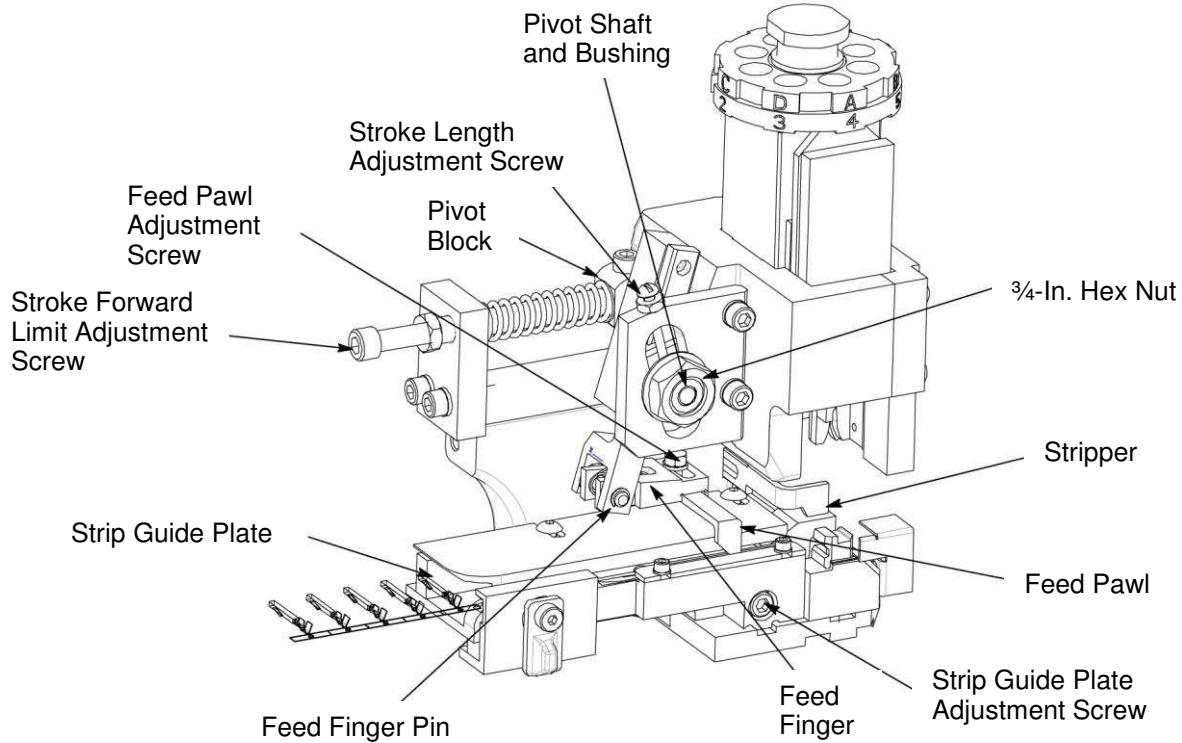
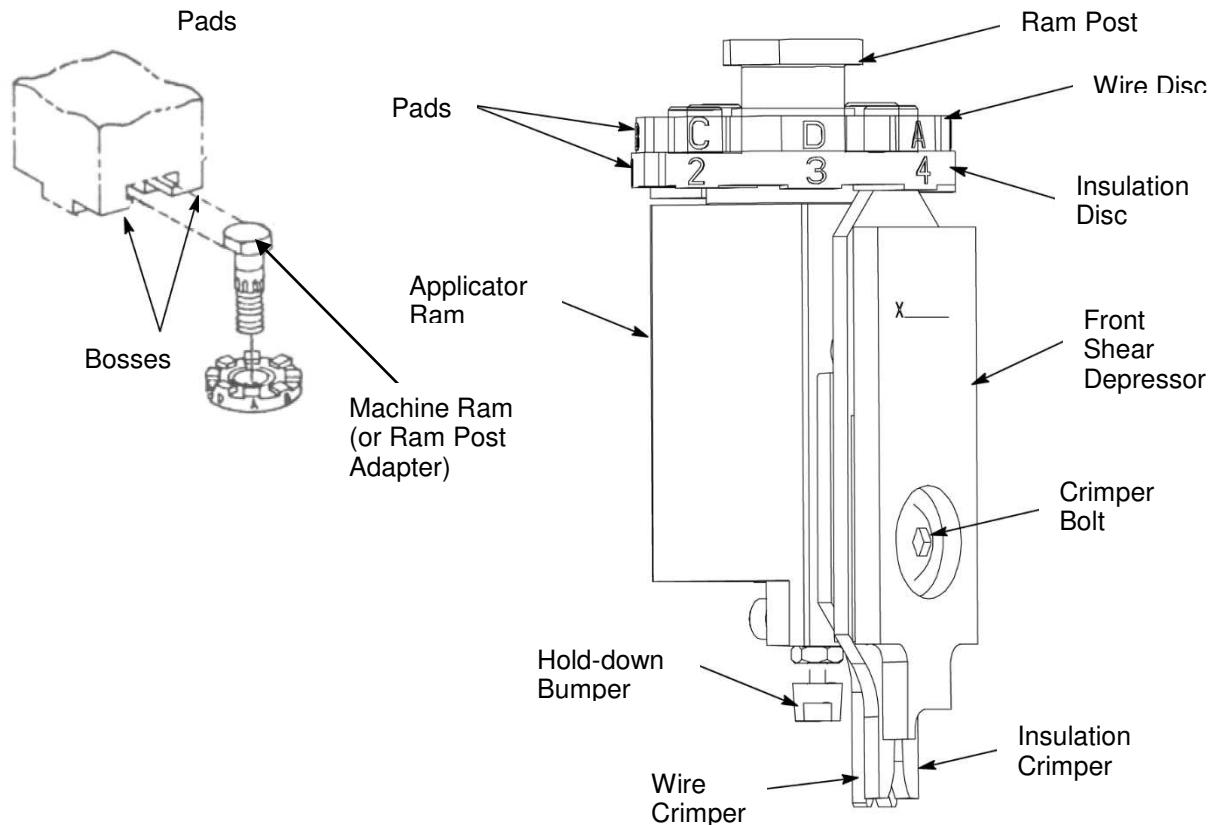
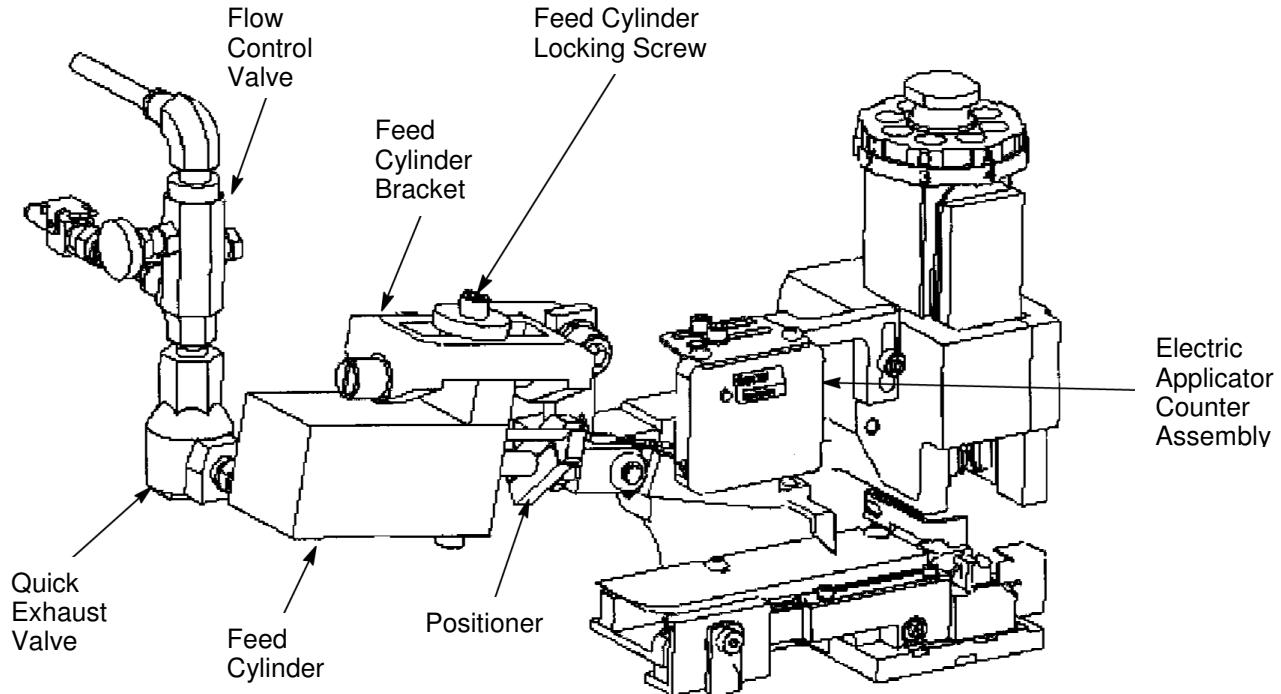

Figure 2
Figure 3
Figure 4
The main components of the applicators with mechanical feed are identified in Figure 1 and Figure 2. The ram assembly is shown in detail in Figure 3.
Just below the ram post are the wire disc and insulation disc. The wire disc has as many as four pairs of pads, depending on the number of different wire sizes the terminals will accept. Each pair of pads has a different height. By rotating the disc, each pair of pads can be lined up with the two bosses on the ram post adapter (see Figure 3) to change the length of stroke of the wire crimper over the anvil. The insulation disc contains eight pads of different heights. When this disc is turned, the pads line up with the top of the insulation crimper to change the insulation crimp height.
2. Turn wire disc (upper disc) to line up selected pad letter with BOSSES ON MACHINE RAM (or RAM POST ADAPTER (reference Figure 3). This provides the right crimp height for that wire size.
3. Loosen screw on top of pivot block (see Figure 2). Turn the stroke forward limit adjustment screw COUNTERCLOCKWISE to move the forward limit toward anvil, or CLOCKWISE to move the forward limit away from anvil. Tighten screw on top of pivot block.
- a. **Applicator with mechanical-feed systems** (Figure 2)
- (1) Loosen screw on top of pivot block.
- (2) Turn stroke forward limit adjustment screw COUNTERCLOCKWISE to move forward limit toward anvil, or CLOCKWISE to move forward limit away from anvil.
- (3) Tighten screw on top of pivot block.
- b. **Applicator with air-feed systems** (Figure 4)
- (1) Loosen slightly the feed cylinder locking screw on top of feed cylinder bracket (see Figure 4).
- (2) Turn on-off valve to the "off" position (AMP-O-LECTRIC machine), or disconnect air supply to feed cylinder (automatic equipment). Feed finger should retract.
- (3) Turn feed adjustment screw CLOCKWISE to RETRACT forward limit or COUNTERCLOCKWISE to EXTEND forward limit of stroke.